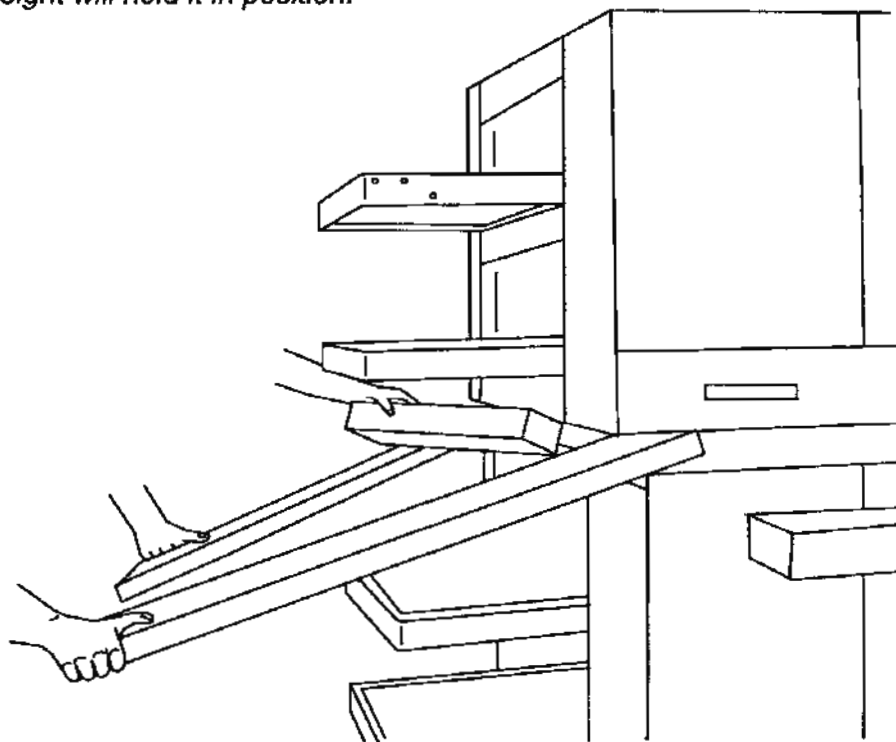

Figure 2-9
5. Refer to Figure 2-9. Using the cross member boards as pry bars elevate one end of the oven at a time, remove the 4" x 4" (10.2 cm x 10.2 cm) board from the lower oven and gently lower upper oven until it rests on the lower oven. The "U" Brackets under the upper oven will retract into the oven base.